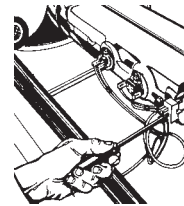

Fig. 4-28
2. Remove the screw from side of heater box (Fig. 4-28) and slide the heat element out of dryer.